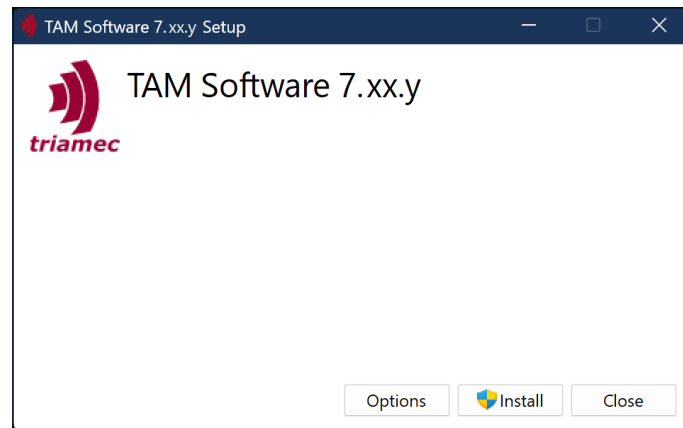

Figure 1: TAM Software Setup
3. The **TAM Software Setup** dialog is opened (Figure 1). Click **Install** to start the installation process.